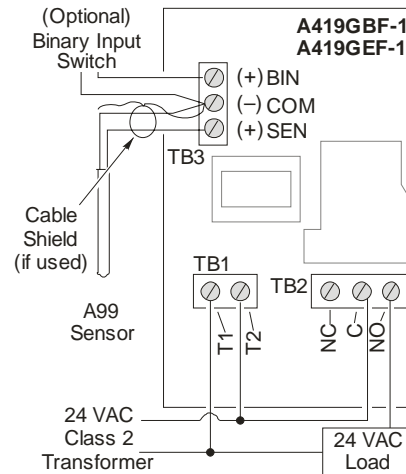
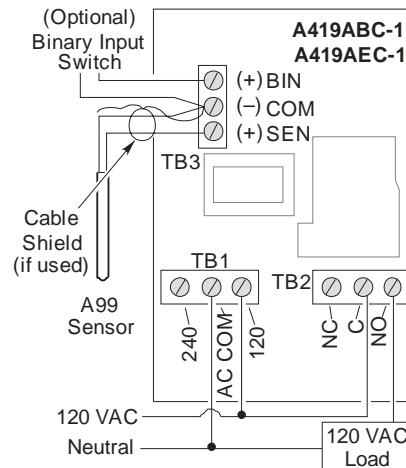
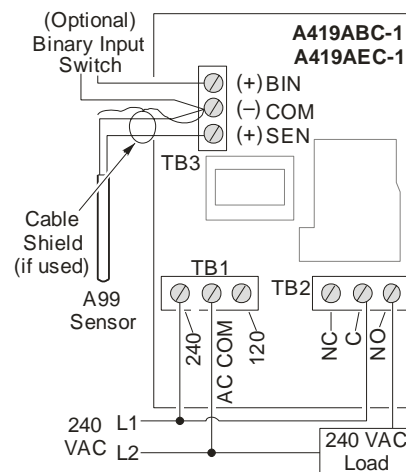

Figure 9: Wiring the 24 VAC A419 Control
Figure 10: Wiring the 120 VAC A419 Control
Figure 11: Wiring the 240 VAC A419 Control
Refer to Figure 9, Figure 10, and Figure 11 for typical examples of wiring an A419 control to the controlled equipment.
A99 temperature sensors are not polarity sensitive. Wire the leads to (+) **SEN** and (-) **COM** on the sensor terminal block (**TB3**). See Figure 9, Figure 10, and Figure 11.
If the **Temperature Offset** function is used, wire a switch (such as a switching time clock) between the binary input terminal (**BIN**) and the common terminal (**COM**). See Figure 9, Figure 10, and Figure 11 for terminal strip location.
- b. Use a reliable AC voltmeter to check the voltage between the **COM** and **120V** or **240V** terminals on line voltage models and the two 24V terminals on low-voltage models. Refer to Figure 9, Figure 10, and Figure 11.